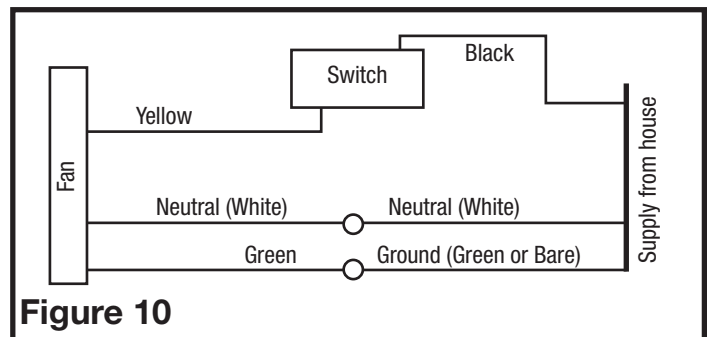

Figure 10
5. For two speed fans wired for continuous ventilation, connect the White wire of the fan to the White (Neutral) wire from the power source. Connect the ground wire from the house to the Green wire from the fan housing. Connect the Black wire of the fan to the Black wire (Hot) from the power source. The fan will operate on low speed continuously and boost to high upon a rise in humidity. Using a properly grounded switch connect the Black wire from the supply to the input side. Connect the Yellow wire from the fan to the other side. Closing the switch will change from normal to high speed. A manual override switch (not included) can be used to provide a manual fan Off function. (**Figure 10**).